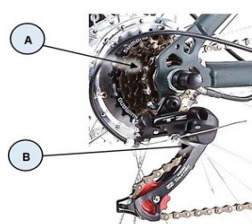

Figure 1
The selectable gears as shown in Figure 1 (A), also known as a "gear cluster" or "cassette," are located on the rear wheel. The larger the gear, the fewer rotations per rotation of the crank. The largest gear is the "lowest" and is referred to as "1." Each subsequent smaller gear is a "higher" gear and is numbered sequentially. Beneath the gear cluster is the derailleur mechanism (Figure 1 (B)), which moves the chain to run on different gears. The derailleur is operated by controls mounted on the handlebars. The gear change is "indexed," ensuring each gear selection positively engages—this is factory set and should require no adjustment.